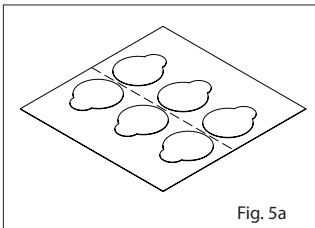

Fig. 5a
1. Refer to Fig. 5a. The adhesive tabs included with the RD SET Inf, Neo and NeoPt sensors are double sided adhesive tabs used when the stickiness of the adhesive covering the optical components are no longer effective.